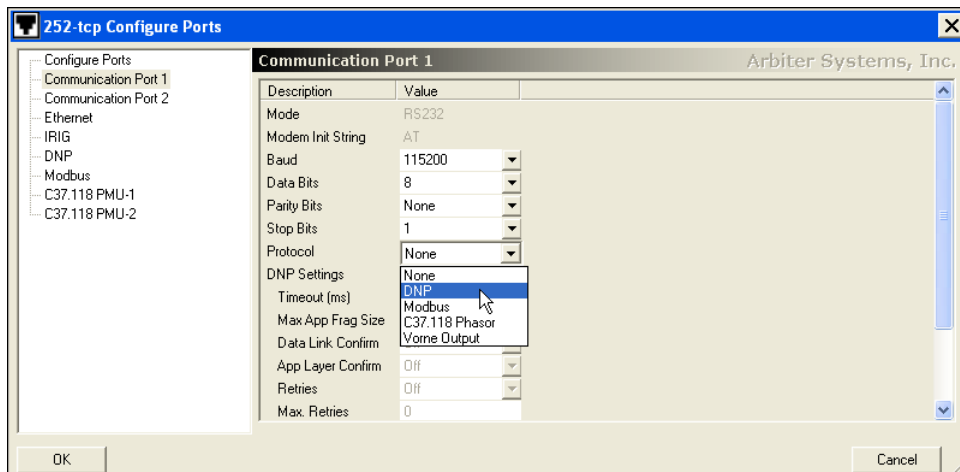

Figure 7.5: Selecting DNP in COM Port 1 Setting
2. Select Connection > Configure > Communication Ports or click the Communication Ports button. In the left panel, select the port that you wish to configure. In the selection below (see Figure 7.5), Communications Port 1 was selected and the Protocol drop down list revealed.